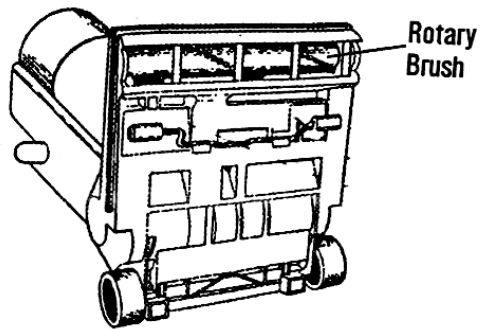

Figure 16a
4. Clean out threads, pet hair and other debris that have gathered between the bristles of the Rotary Brush. (See Figure 16a.)